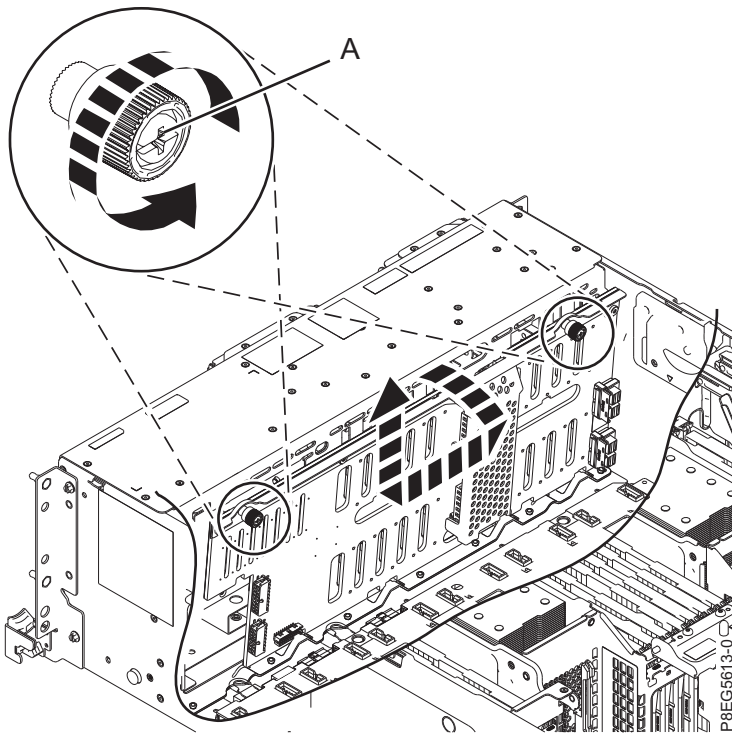

Figure 62. Removing the disk drive backplane
7. Carefully unscrew the disk drive backplane's captive thumbscrews (**A**) until fully loose as shown in Figure 62 on page 66.